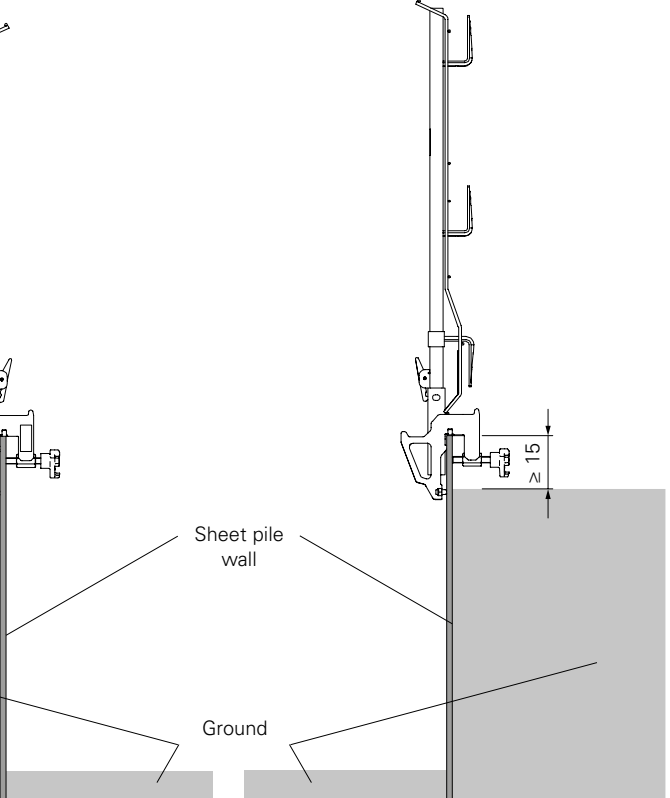

Fig. A2.12
1. Fit the three-winged nut (**4b**) in the direction of the higher level. (Fig. A2.12)